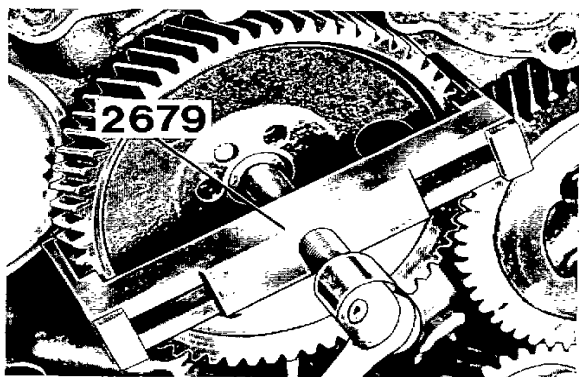

Fig. 64. Removing the camshaft gear
6. Remove the camshaft gear after the three attaching bolts have been loosened. If necessary use puller 2679, see fig. 64. Remove the injection pump drive gear in the same way.
- Remove the camshaft gear. Use puller 2679 (fig. 64), if necessary.